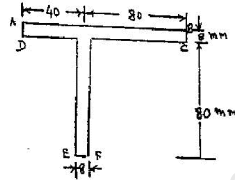

Fig. 2
- (b) Find the max. bending stress for the section shown in the fig.2, subjected to a bending moment $M_x = 1500 \text{ N-m}$.